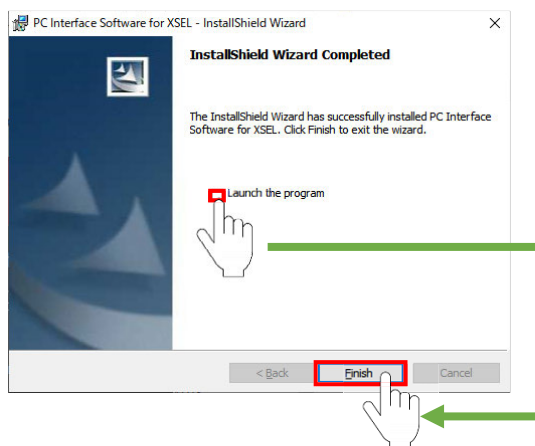

Fig. 1.13 Installation Complete
- 10) When installation is complete, the screen in Fig. 1.13 will be displayed. Uncheck "Launch the program" and click **Finish**.